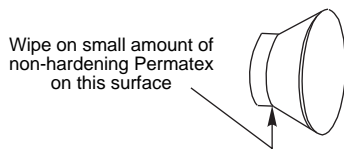

Figure 8A
- B. Apply a small amount of non-hardening silicone RTV on surface of insert (see Figure 8A).